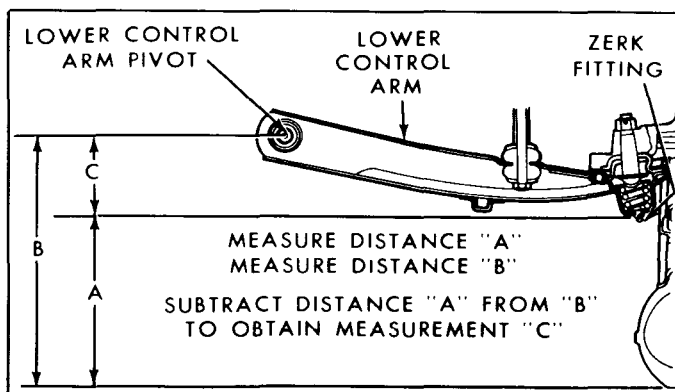

Fig. 3-21—Measurement of Front Suspension Curb Load Riding Height—(61CM-402)
4. To obtain the specified front suspension curb load riding height, refer to figure 3-21 and follow the instructions noted on the illustration to obtain measurement "C". Distance "C" should measure: